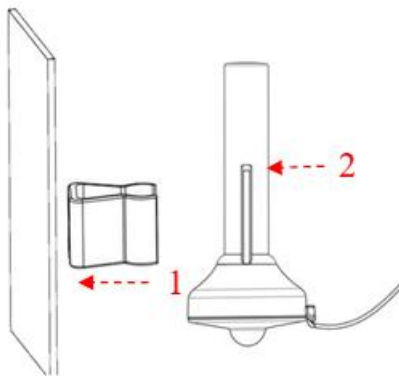

Figure 3
- 3.2.2 Each lifebuoy light is packed with a clip and rope. When installing the light, separate the clip from the light, as shown in Figure 3.